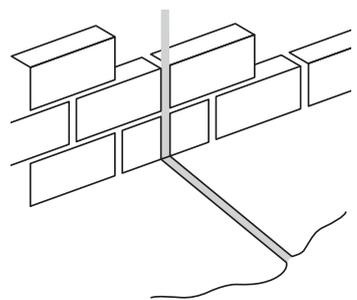

Fig. 6
- Movement joints in concrete floor slabs (See Figure 6)